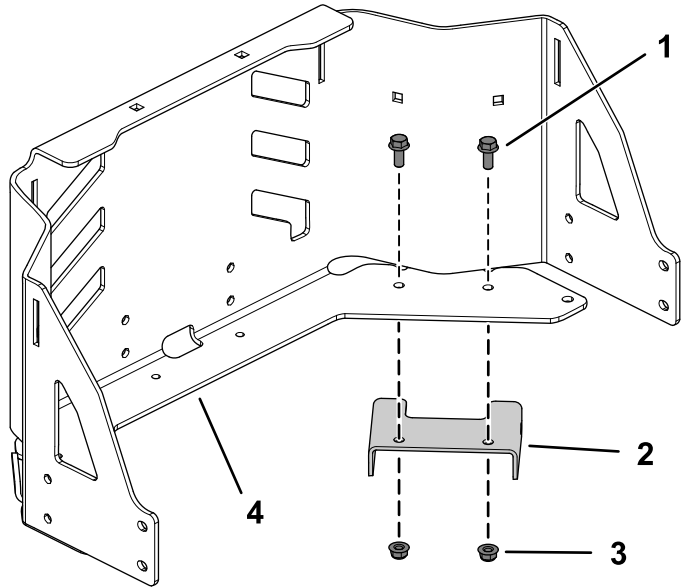

Figure 1
1. Secure the bracket to the engine guard using 2 flange-head bolts (5/16 x 3/4 inch) and 2 flange nuts (5/16 inch) as shown in Figure 1.